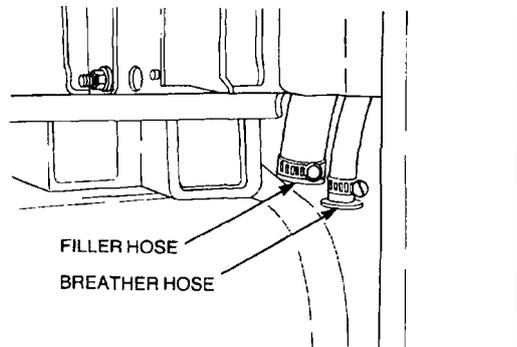

Figure 316 Removing the Fuel Tank Filler and Breather Hose
- ff. Loosen the hose clamps securing the fuel tank breather hose and filler hose (Figure 316) and remove the hoses from the fuel tank.